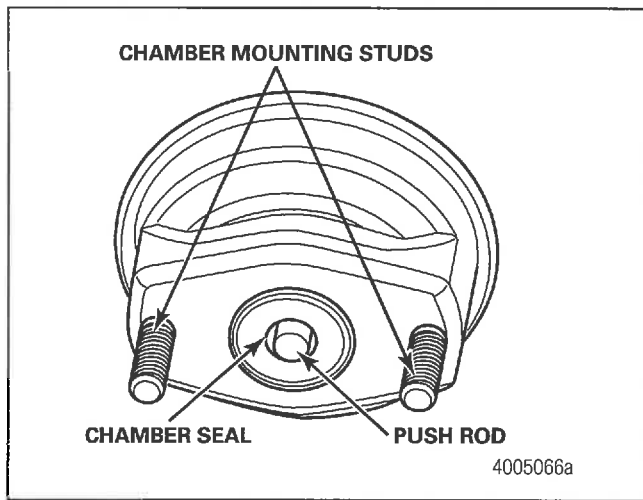

Figure 3
1. Inspect the brake chamber and caliper assembly for signs of water entry and corrosion. Figure 3.